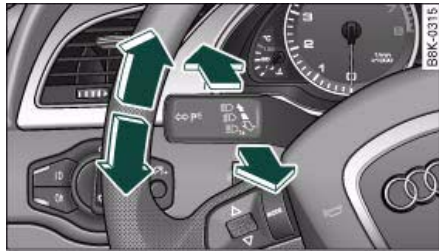

Fig. 57 Turn signal and main beam headlight lever
- Move the lever all the way up to indicate right, or all the way down to indicate left ⇒ fig. 57.